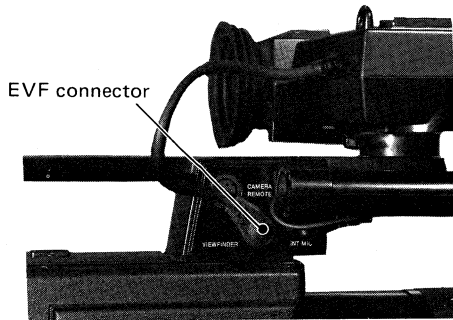

Fig. 2-2-1
- Unlock the EVF lock lever. (Fig. 2-2-1)